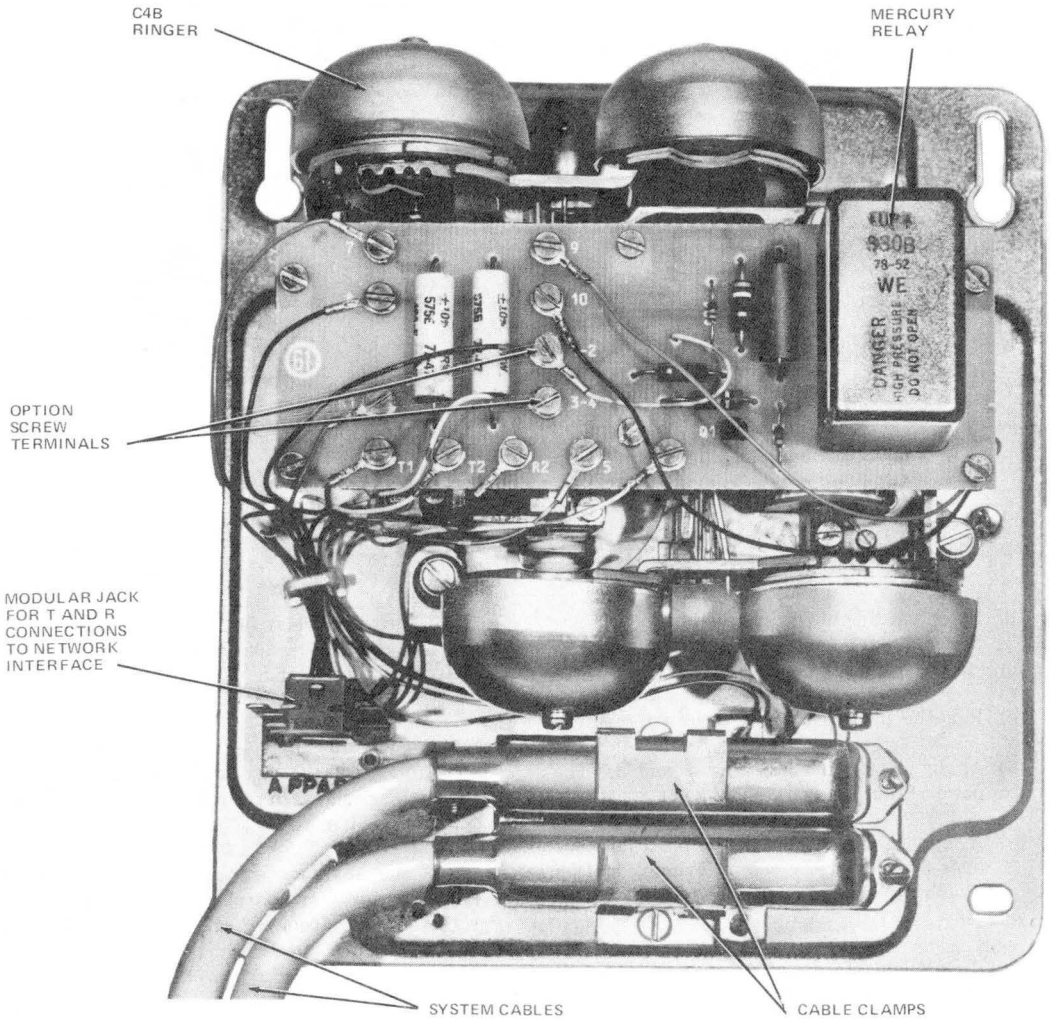

Fig. 32—24B Apparatus Unit
**3.46** Locate the 24B apparatus unit (Fig. 32) near the telephone where power failure ringing is required. Remove the cover and mount the base pan assembly on a vertical surface so that the mercury relay on the wiring board is in a